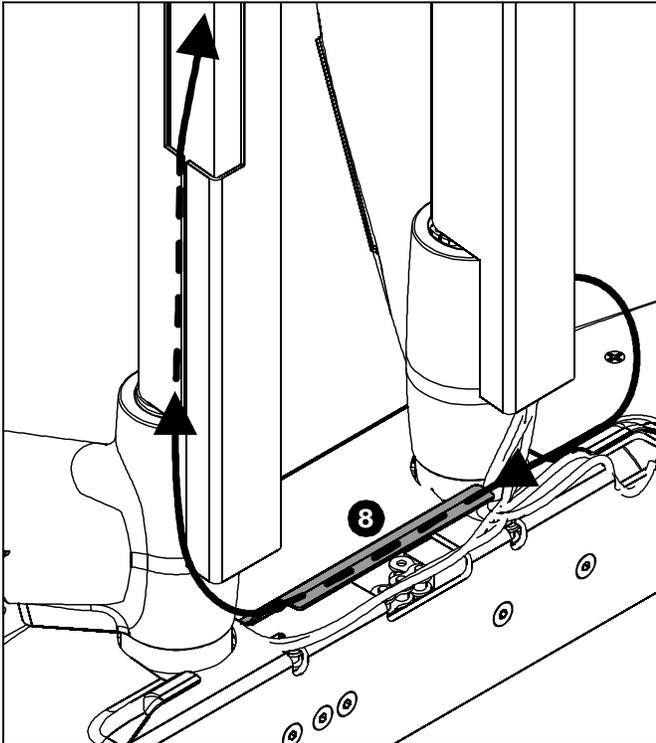

Figure 34
- If necessary, use cable management flap on PXR base to route cables from left arm to PXR right side. (See Figure 29) and (See Figure 34)